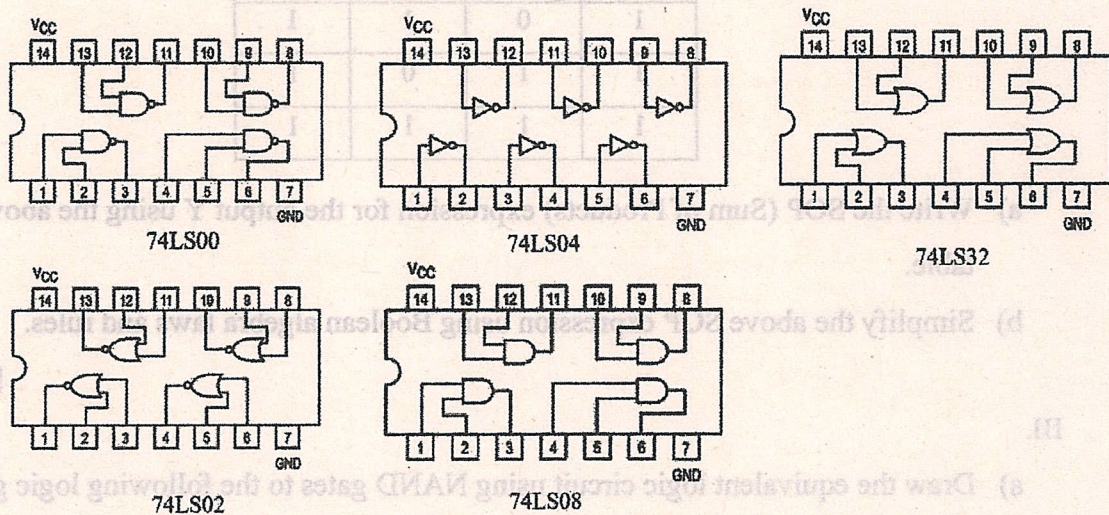

Figure 4
b) It is required to implement the above combinational logic using a **minimum number of Integrated Circuit (IC) packages** due to a space constraint in the circuit. A list of available IC packages and their pinout diagrams are shown in Figure 4. Redraw the logic circuit in part a) so that the number of IC packages used is minimized.